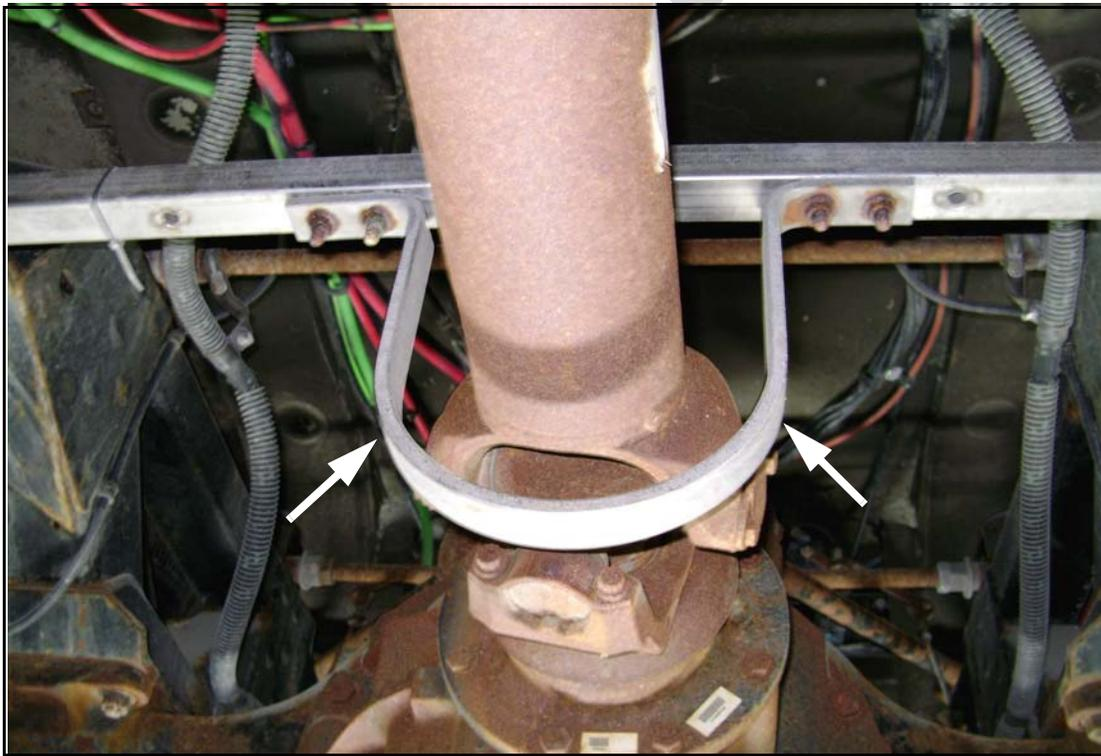
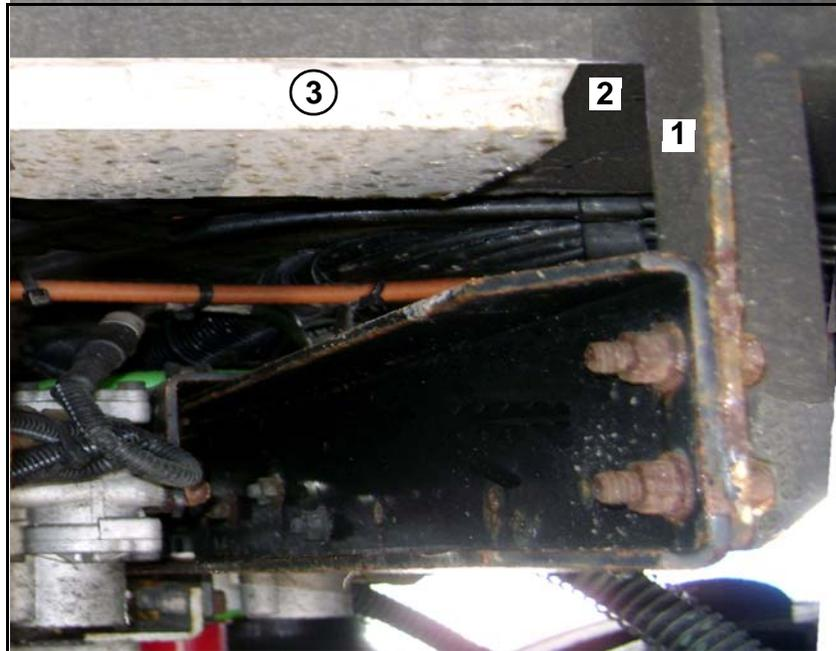

Figure 1.
Figure 3.
4. Locate the driveshaft, installed between the transmission and the drive axle (refer to Figure 1).
5. Remove and retain the mounting hardware on the driveshaft guard (refer to arrows in Figure 1). Remove and retain the driveshaft guard to be re-installed at a later step in this procedure.
8. Locate the bracket, shown as Item 1 in Figures 3 and 4, positioned approximately one (1) foot away from the crossmember assembly that the driveshaft guard (Figure 1) was mounted to. The vertical face of this bracket will be the reference point utilized to position the tapped plates in Figure 7.
23. Using the existing mounting hardware, re-install the driveshaft guard (refer to arrows in Figure 1). Torque hex nut to 15-25 ft-lbs. Tighten jam nut to secure.